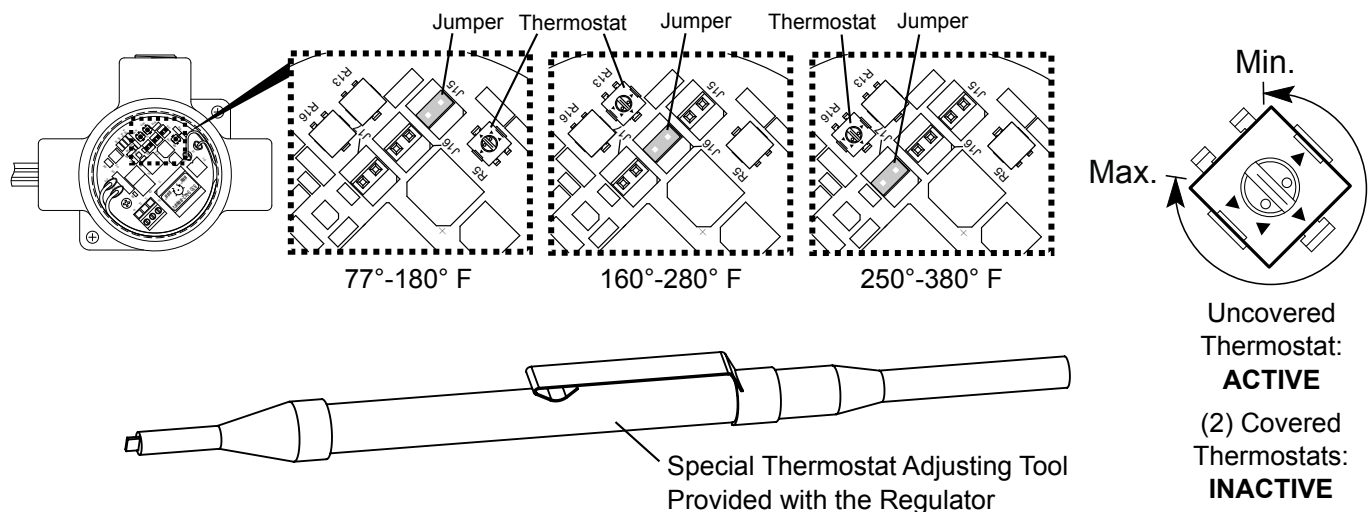

Figure 4 - Thermostat Location
3. Using the thermostat adjusting tool provided with the regulator, adjust the thermostat. This tool must be used to prevent damage to the thermostat. Refer to Figure 4 for thermostat location.